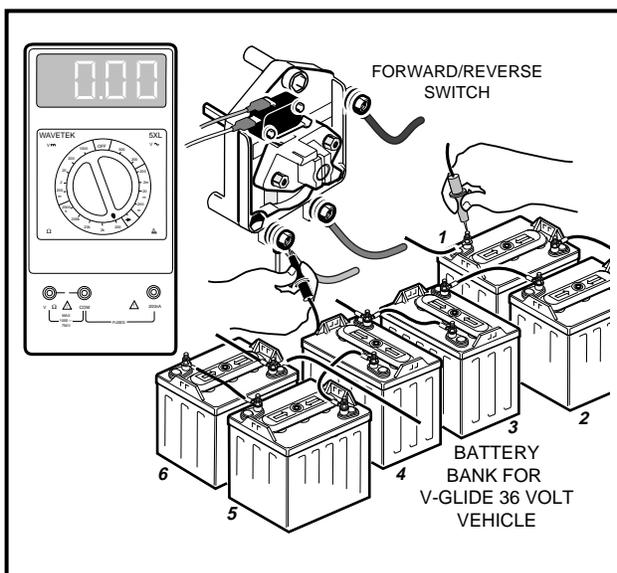

Figure 11-20 Solenoid Contacts - Power On, Step 1
2. With Forward/Reverse handle in NEUTRAL, place red (+) probe of multimeter (set to Ω) on positive post of battery No. 1. Place black (-) probe on the *forward* terminal lug on F&R switch. If reading is no continuity, inspect the wire assembly between these two positions and replace the wire assembly if it is defective (**Figure 11-20, Page 11-13**).